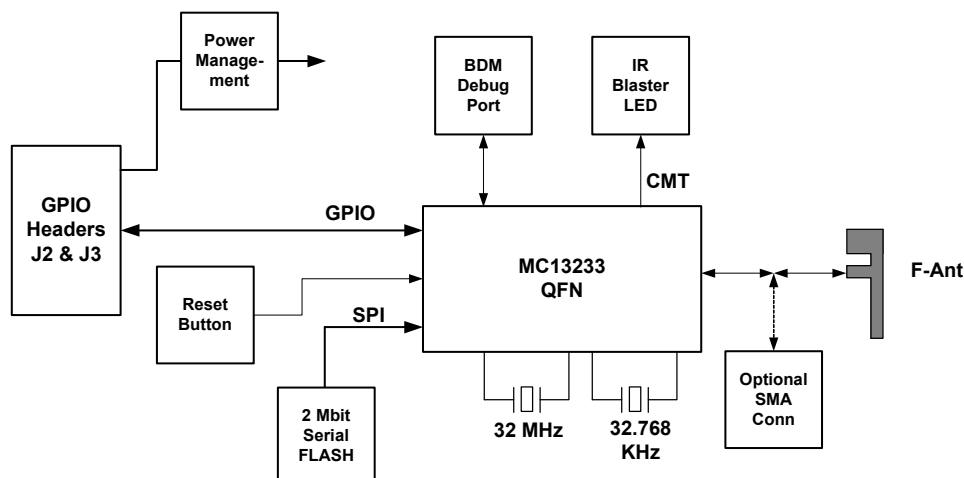

Figure 3-3. 1323x-MRB Block Diagram
- Figure 3-3 for the functional blocks